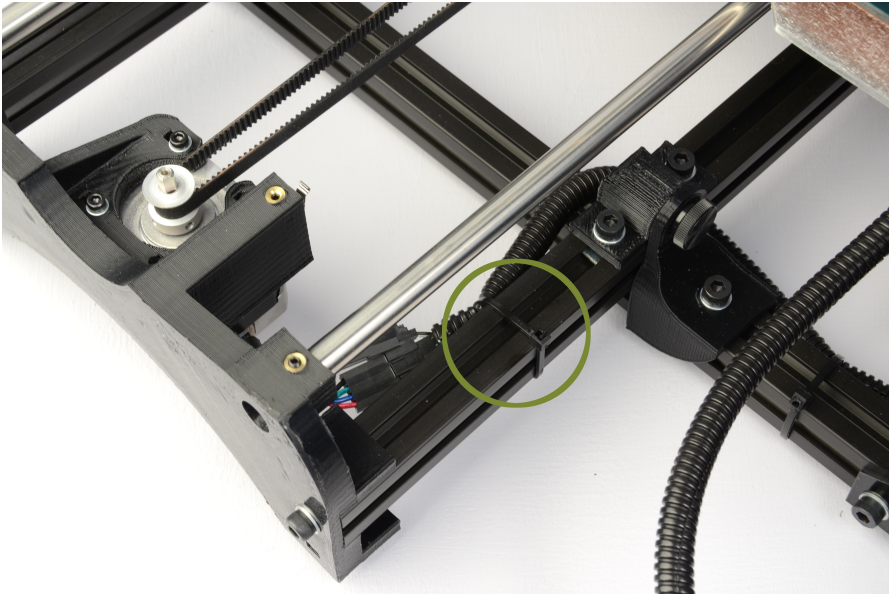

Figure 1.7: Wrap and tighten a zip tie around the Y axis wires to the Y axis frame.
5. Locate one of the three small black zip ties that are included in the documents bag. Wrap and tighten the zip tie around the Y axis wiring and the black Y axis frame extrusion as shown in figure 1.7 (page 21).